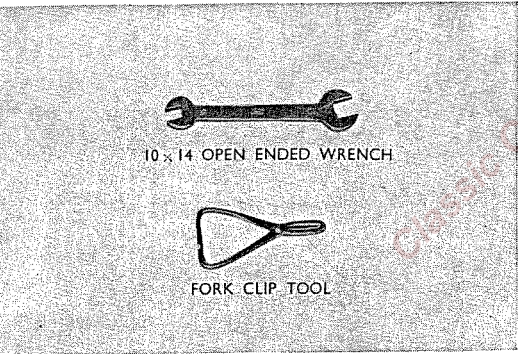

Fig. 4.28 Tools required for disassembly and assembly of fuel tank
1. Tools required for disassembly and assembly of the fuel tank. (Refer to Fig. 4.28)